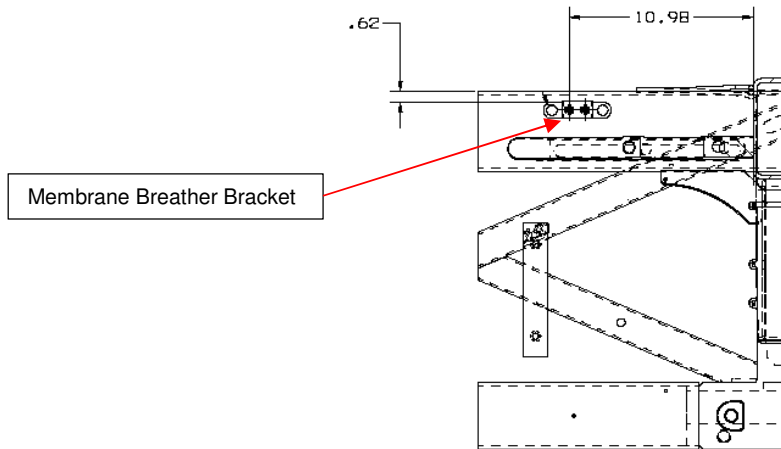

Figure 3: Membrane Breather Bracket Mounting Location.
29. Install the membrane breather bracket NF P/N 393362 on the frame cross member above the curb side upper radius rod mounting bracket. See Figure 3 for location dimensions.